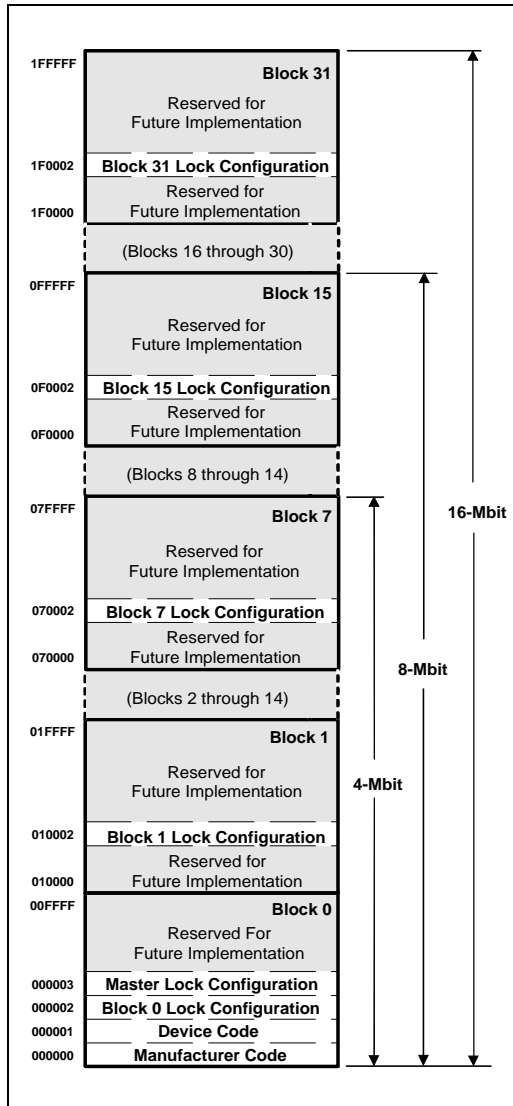

Figure 5. Device Identifier Code Memory Map
The read identifier codes operation outputs the manufacturer code, device code, block lock configuration codes for each block, and master lock configuration code (see Figure 5). Using the manufacturer and device codes, the system software can automatically match the device with its proper algorithms. The block lock and master lock configuration codes identify locked and unlocked blocks and master lock-bit setting.
IA = Identifier Code Address: see Figure 5.
The identifier code operation is initiated by writing the Read Identifier Codes command. Following the command write, read cycles from addresses shown in Figure 5 retrieve the manufacturer, device, block lock configuration and master lock configuration codes (see Table 4 for identifier code values). To terminate the operation, write another valid command. Like the Read Array command, the Read Identifier Codes command functions independently of the V_{PP} voltage and RP# can be V_{IH} or V_{HH}. Following the Read Identifier Codes command, the subsequent information can be read.
1. X selects the specific block lock configuration code to be read. See Figure 5 for the device identifier code memory map.